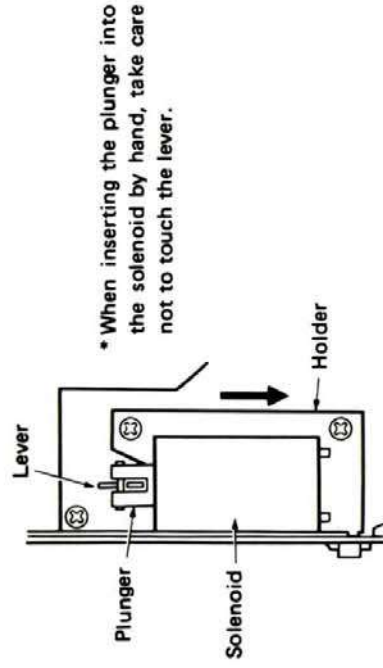

Fig. 17
- 2) After forcing the solenoid as far as it will go in the direction of the arrow in Fig. 17, secure the solenoid tightly, and check that the head base is in contact with the stopper (pinch roller shaft).